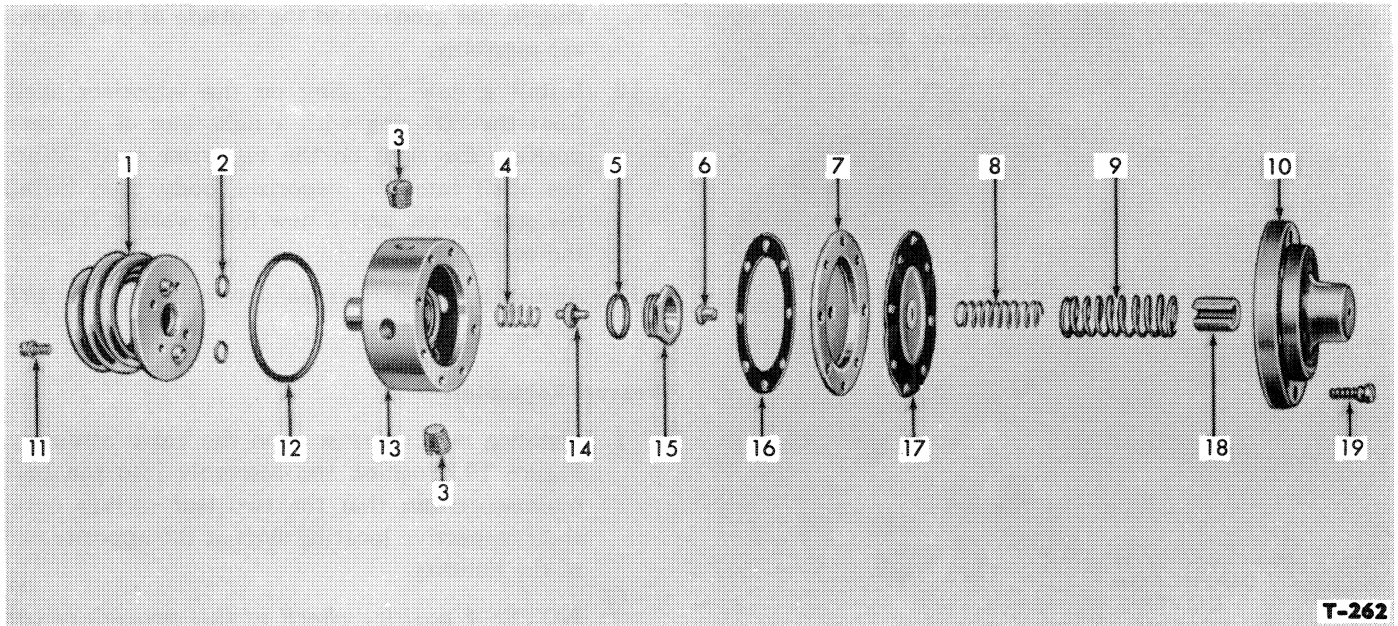
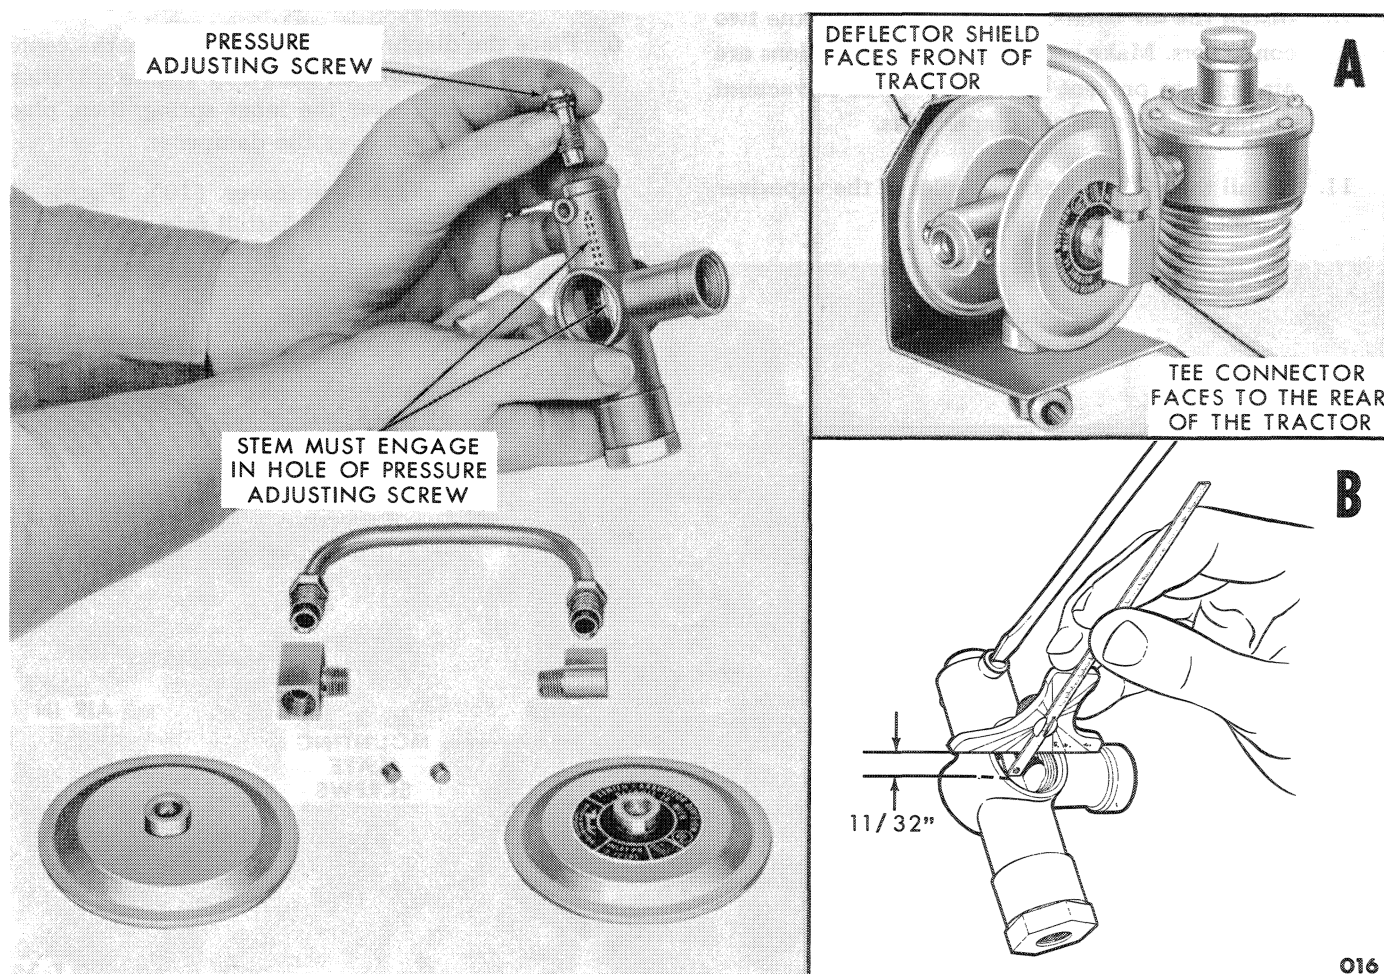
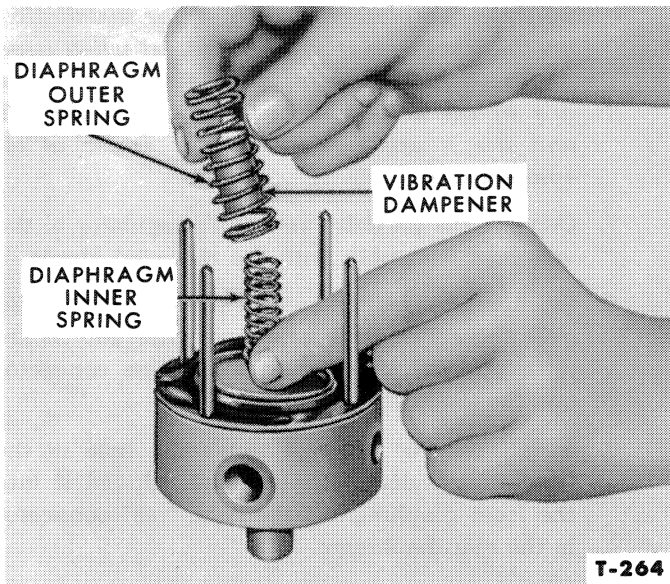

Figure 20—Vaporizer Disassembled—Late Model
Figure 22—Installing Pressure Adjusting Screw
Figure 23—Installing Diaphragm Inner and Outer Springs
1. Remove the four screws (11), Figure 20, that attach the vaporizer coil and mounting plate (1)
3. Release the pressure on the diaphragm cover and remove the cover (10), Figure 20, inner spring (8), outer spring (9), and vibration dampener (18). Remove the four Aligning Studs C161-195 from the vaporizer body.
4. Lift the diaphragm (17), baffle plate (7), gasket (16), and fuel valve cap (6), from the body.
5. Remove the fuel valve seat (15), "O" ring (5) from the body with a 1" socket wrench. Lift the fuel valve (14) and spring (4) from the body.
1. Replace the diaphragm outer spring (9), Figure 20, inner spring (8), diaphragm (17), gasket (16), "O" rings (5, 12, and 2), fuel valve (14) and fuel valve springs (4) at time of overhaul.
2. Replace the coil and mounting plate (1), body (13), baffle plate (7), or cover (10) if damaged.
3. Lubricate a new "O" ring with a light film of oil and install it on the pressure adjusting screw. Invert the housing so that the valve retainer faces downward as shown in Figure 22 and install the pressure adjusting screw. Be certain that the stem of the valve stem assembly enters the hole of the pressure adjusting screw before turning the screw inward.
5. Position the regulator housing so that the valve retainer faces downward with the installed valve assembly resting on it. Use a depth gauge as shown in insert (B), Figure 22, to depress each spring to $1\frac{1}{32}$ ". With the spring held in the depressed position by the depth gauge, lock the leaf spring in its slot with a retainer screw. Follow the same procedure for the other leaf spring.
NOTE: Before further assembly of the regulator is attempted, refer to insert A in Figure 22 which shows both pressure reduction com-
1. Place fuel valve spring (4), Figure 20, over boss in center of vaporizer body (13). Place the fuel valve (14) on the spring making sure the short stem of valve is toward the body and that the spring is contacting the machined shoulder of the valve.
2. Install a new valve seat “O” ring (5) on the valve seat (15). Thread the valve seat into the body and tighten it securely with a 1” socket wrench.
3. Install the four Aligning Studs C161-195 in the vaporizer body as shown in Figure 22.
4. Place the fuel valve cap (6), Figure 20, on the fuel valve stem. Install a new gasket (16) on the aligning studs.
5. Position the baffle plate (7) with the recessed side down over the studs. Make certain that the fuel valve cap enters the hole in the baffle plate. Install the diaphragm (17) with the flanged disc facing up.
6. Place the diaphragm inner spring over the center of the diaphragm as shown in Figure 23. Place the dampener over the inner spring, then, place the outer spring over the dampener.
7. Install the diaphragm cover (10), Figure 20, over the aligning studs. Install four cover attach-